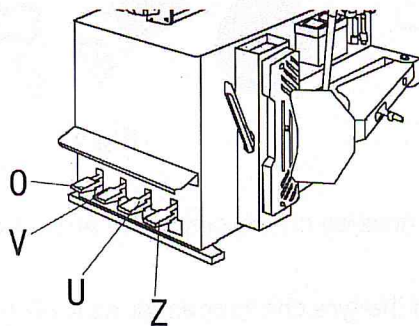
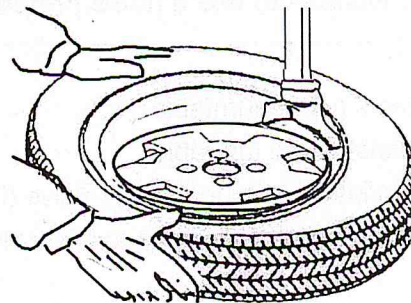

Fig.10
Fig.11
- Keep the tyre bead pursed down into the wheel rim channel with your hands. Press down on the pedal (Z) to rotate the turntable clockwise (Fig.10). Continue until you have covered the entire circumference of the wheel rim (Fig.11).